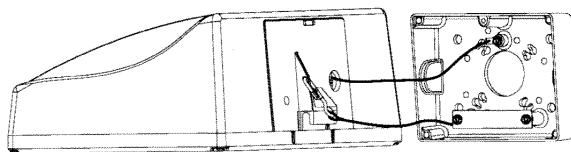

FIGURE 1
- An alternate method of mounting the Mounting Box over a recessed-mounted outlet box is to position back cover over the box and securely mount with lag bolts (not provided) through the holes provided in the back cover (see Figure 1).